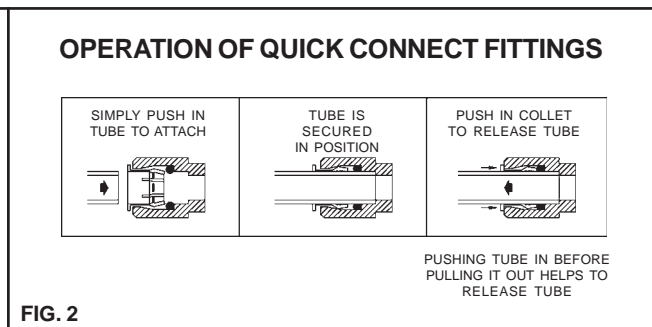

FIG. 2
**Ftn. w/MPW Mounting Plate:** Install the fountain to the back panel and wall using (4) 5/16 " x 6" long threaded rods, washers, and nuts (provided). Tighten securely.
**Ftn. w/Wall Plate Assy.:** Install the fountain to the back panel and wall using (4) 5/16" x 3/4" long bolts and washers (provided) thru holes in back panel. Washer used on bottom two (2) holes only. Tighten securely.
7. **Make water supply connections** from service stop to the fountain strainer. Insert the water inlet line into the inlet side of strainer until it reaches a positive stop - about 3/4" (See Fig. 2). Turn on water supply and check for leaks. Newly installed water supply line should be insulated after leak check is completed. **DO NOT SOLDER TUBES INSERTED INTO THE STRAINER AS DAMAGE TO THE O-RINGS MAY RESULT.**